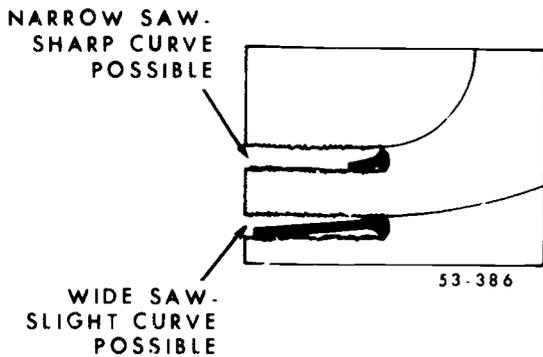

Figure 67 Effect of set when sawing radii
ture of the cut since, as shown in figure 67, you cannot saw sharp curves with wide saw bands.
i. The set prevents the band from binding. It provides a clearance which makes radius cutting possible. It is the difference between the set of the saw and the gage that enables the band to turn in a cut, as shown in figure 67. The amount of set determines the width of the kerf and the